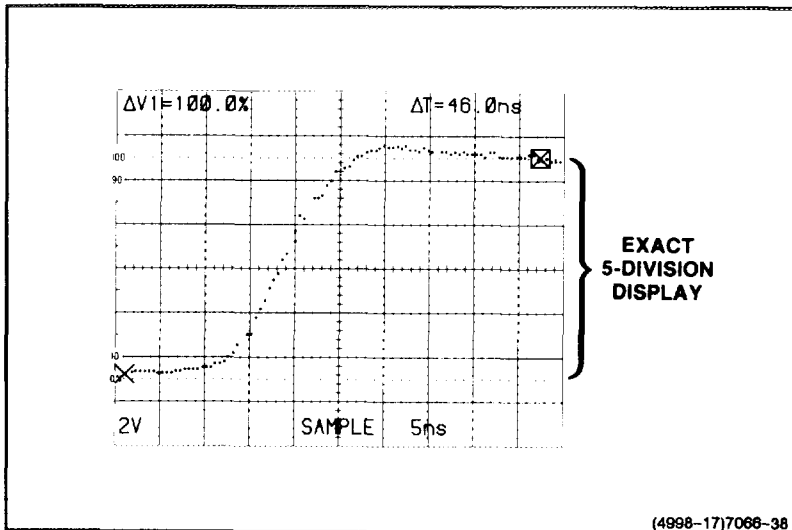

Figure 6-13. Rise-time setup, five-division display.
- Set the SEC/DIV switch for a single-event display, with the rise time spread horizontally as much as possible within the viewing area. The waveform's maximum and minimum levels must still be visible (see Figure 6-13).